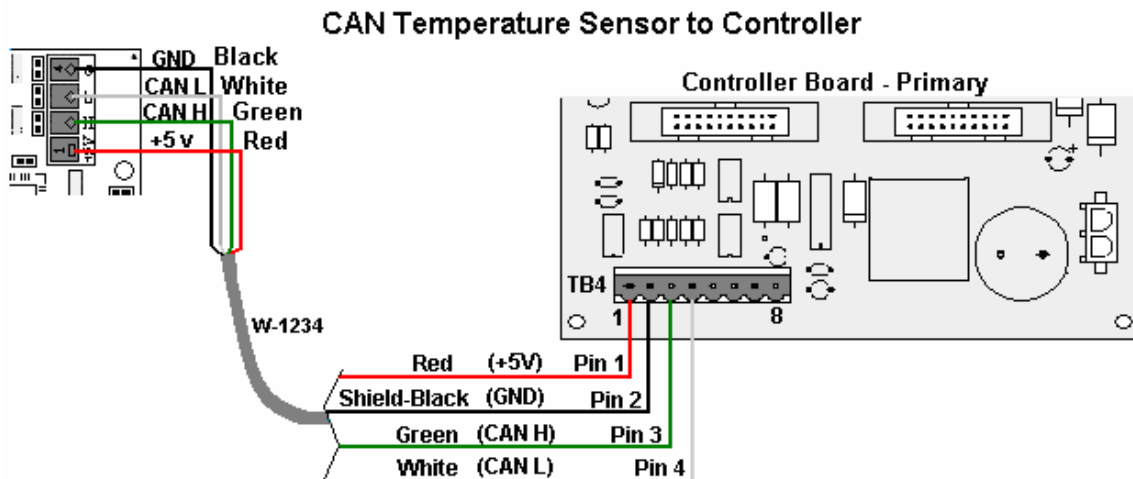

Figure 8: CAN Temperature Sensor Connection
2. Use a 2-pair 22 AWG individually shielded cable to connect the sensor to the 8-position terminal block in the display labeled "CAN US/DS" (A31/TB4). Connect to the controller as shown in **Figure 8**.
5. Connect the cable coming from the display's terminal block to the temperature sensor board in the temperature sensor housing. Refer to **Figure 8** and table below for wiring locations at the sensor and to the controller.
6. Make sure to route cable around the sensor board as shown in **Drawing A-197884**. Connect the cable and reassemble the sensor. Refer to **Figure 8** and to the table below for the temperature sensor wiring.